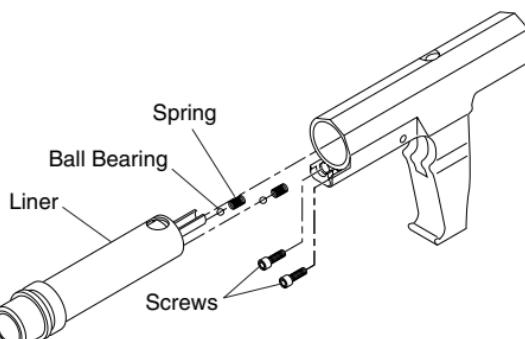

**Figure 8 - Removing Trigger Pin and Trigger Assembly**
1. Remove trigger pin from tool body (see Figure 8). **Note:** End of trigger pin is threaded. Unscrew threaded portion of pin, then pull pin from tool body.
1. Insert trigger assembly into tool body at rear of body (see Figure 8, page 20).